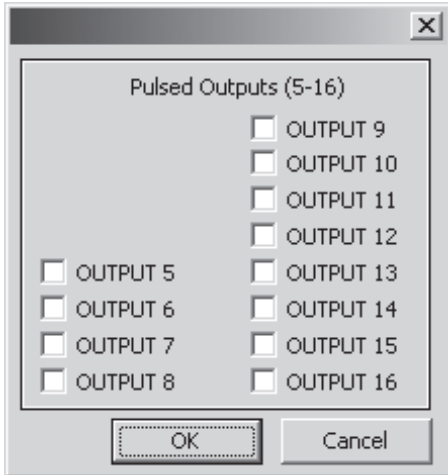

Figure 4-25 Pulsed Outputs Selection Screen
13. Select **Outputs** from the **PULSED OUTPUTS** section of the System Setup screen. ISScom will display the Pulsed Outputs Selection Screen (Figure 4-25).